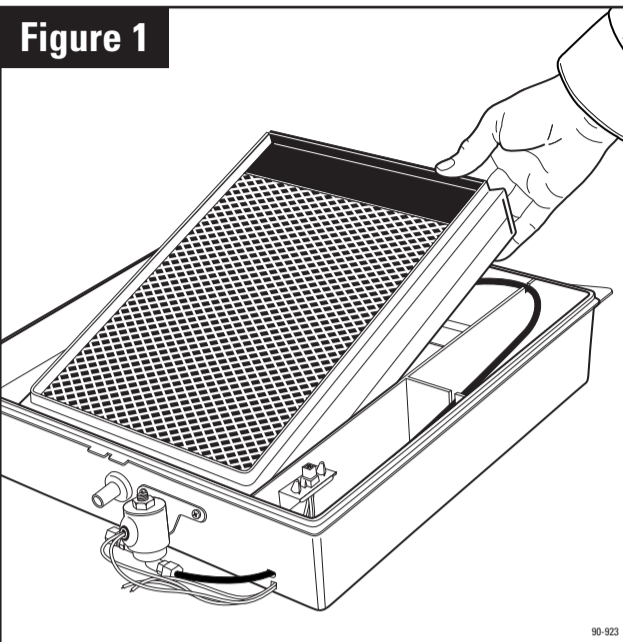

Figure 1
- Place the humidifier on a flat surface. Unlatch humidifier cover assembly from base assembly at the bottom of the cover, lift and set aside. Pull out the evaporative assembly by grasping at the top and tipping out. (See Figure 1)